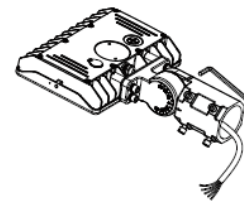

Figure 6
- 7: Adjust arm to desired angle then finish tightening angle adjustment screw. (Figure 6)